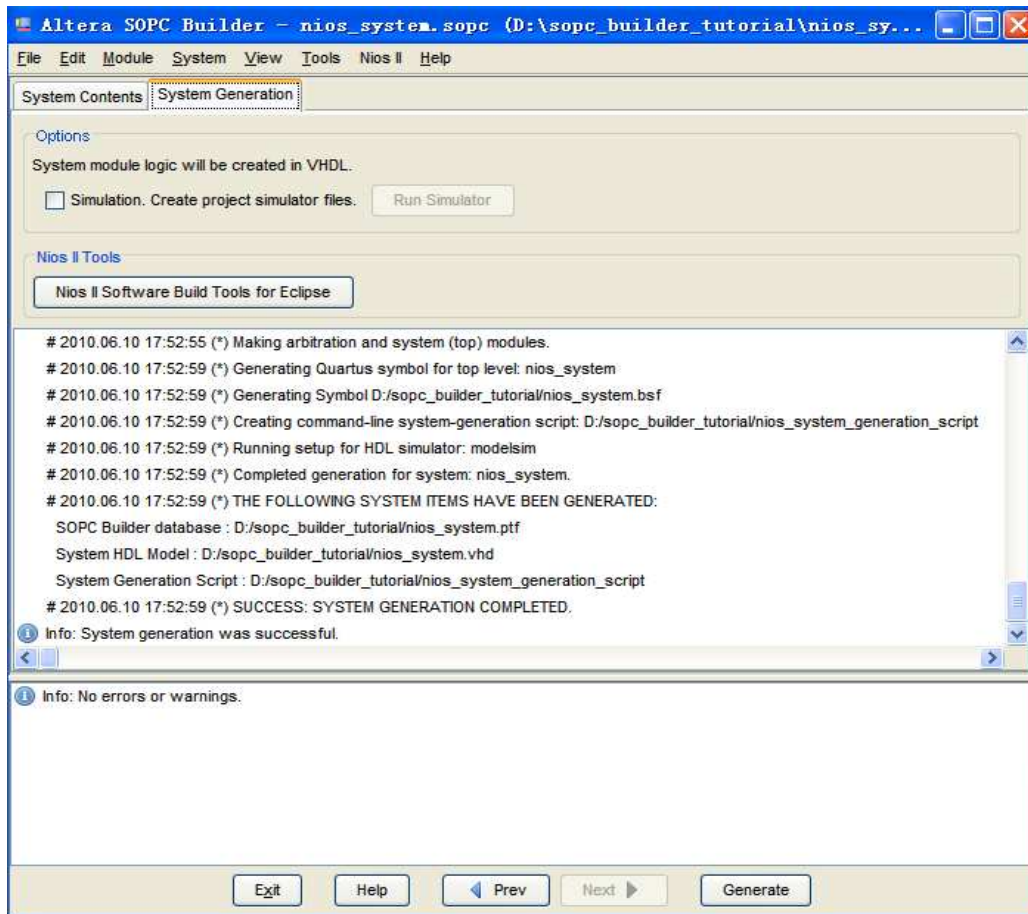

Figure 15. Generation of the system.
13. Having specified all components needed to implement the desired system, it can now be generated. Select the System Generation tab, which leads to the window in Figure 15. Turn off Simulation – Create simulator project files, because in this tutorial we will not deal with the simulation of hardware. Click **Generate** on the bottom of the SOPC Builder window. The generation process produces the messages displayed in the figure. When the message “SUCCESS: SYSTEM GENERATION COMPLETED” appears, click **Exit**. This returns to the main Quartus II window.